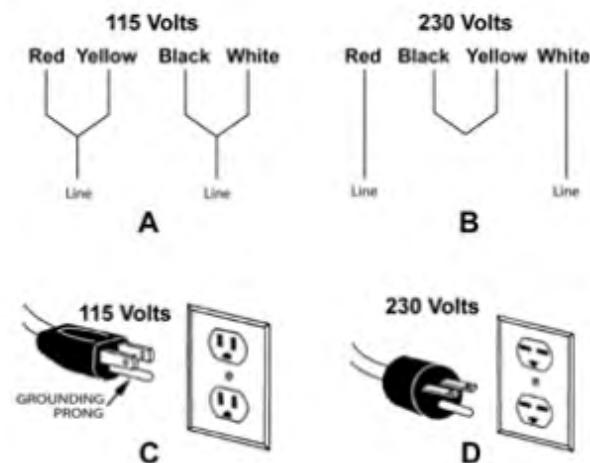

Figure 7-2
Refer to Figure 7-2:
2. The jointer motor has four numbered leads that are factory connected for 115V operation, as shown in **A**, Figure 7-2. For 230V operation reconnect the leads as shown in **B**.